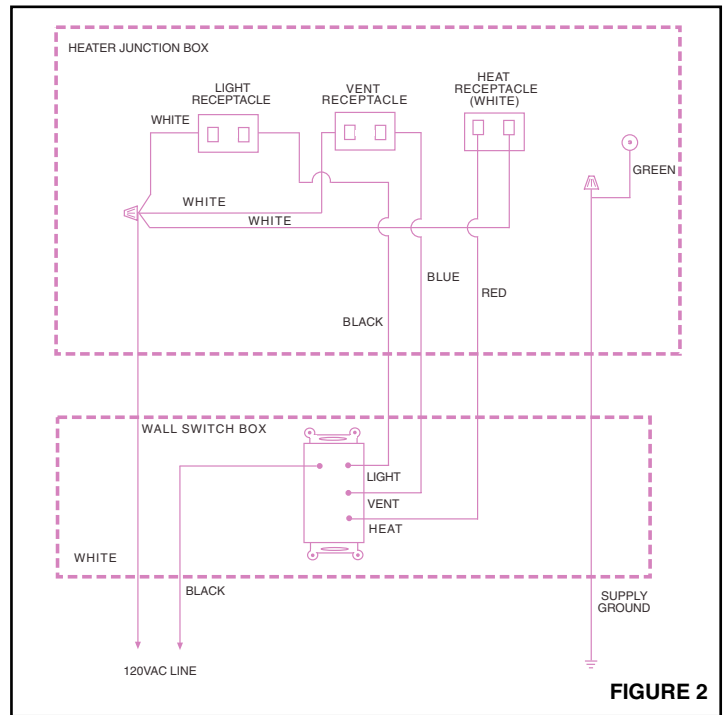

FIGURE 2
3. **Refer to Figure 2.** Connect white wires in junction box to white (neutral) supply wire. Connect the blue wire in the junction box to the supply wire from the vent switch. Connect the black wire to the supply wire from the light switch. Connect the red wire in the junction box to the supply wire from the heat switch. Connect green ground leads in the junction box to the supply ground.